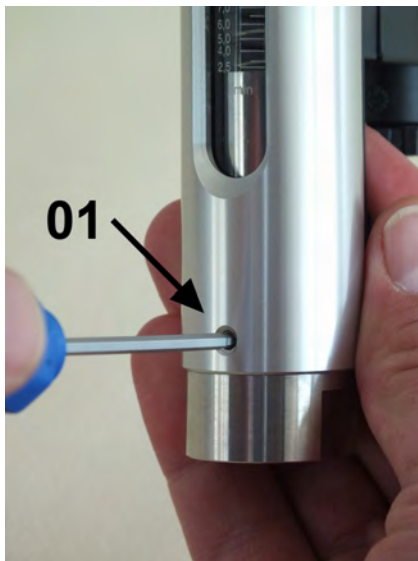

Fig. 37: Loosen screws
3. → Secure the device with one hand to ensure the sight glass does not slip out. With the other hand, loosen the lower 3 hex head screws (Fig. 37/01).